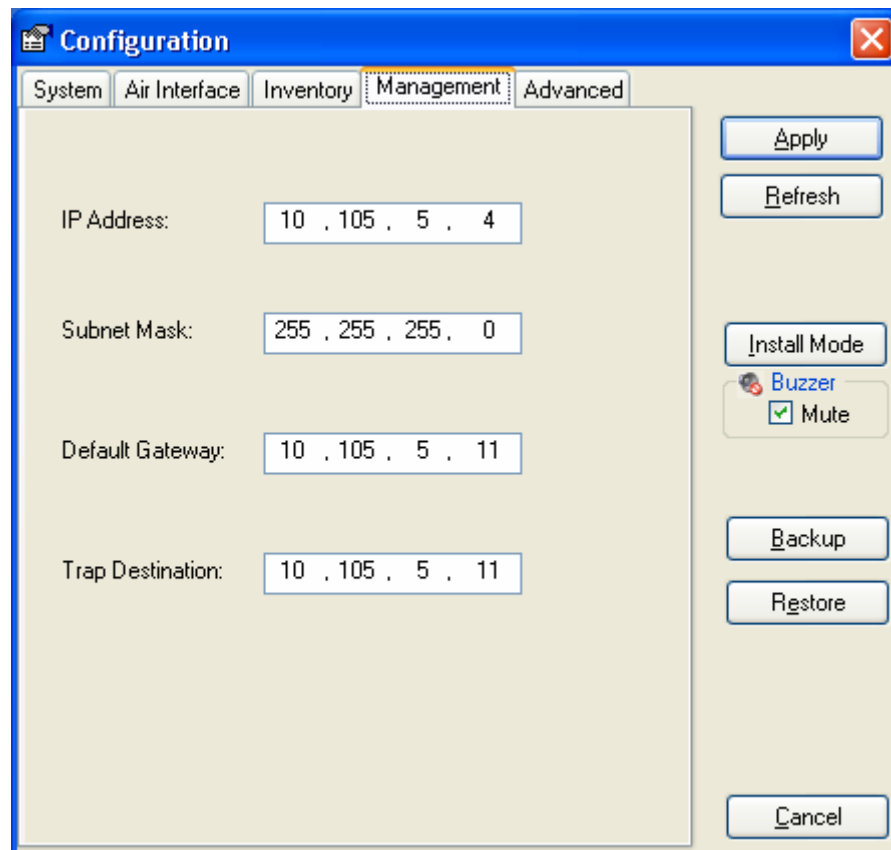

Figure 3-16. Configuration, Management
3. Click the Management Tab (see *Figure 3-16*).